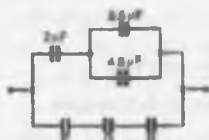

Figure 6.12
- In Fig. 6.12 capacitors P , Q and R are identical and the total equivalent capacitance of the circuit is $3\ \mu\text{F}$. Determine the values of P , Q and R .